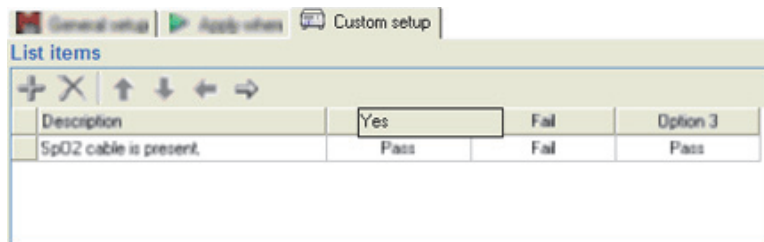

Figure 3-31. Altering a Checklist Options with Custom Name
- Enter the new name for the option. Figure 3-31 shows the Pass option name being changed to Yes.